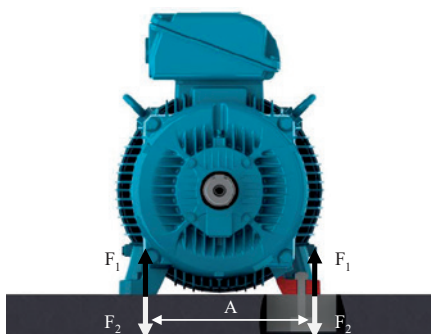

Figure 30 - Motor installed on concrete base
- Concrete bases: are most used for large-size motors (Figure 30);